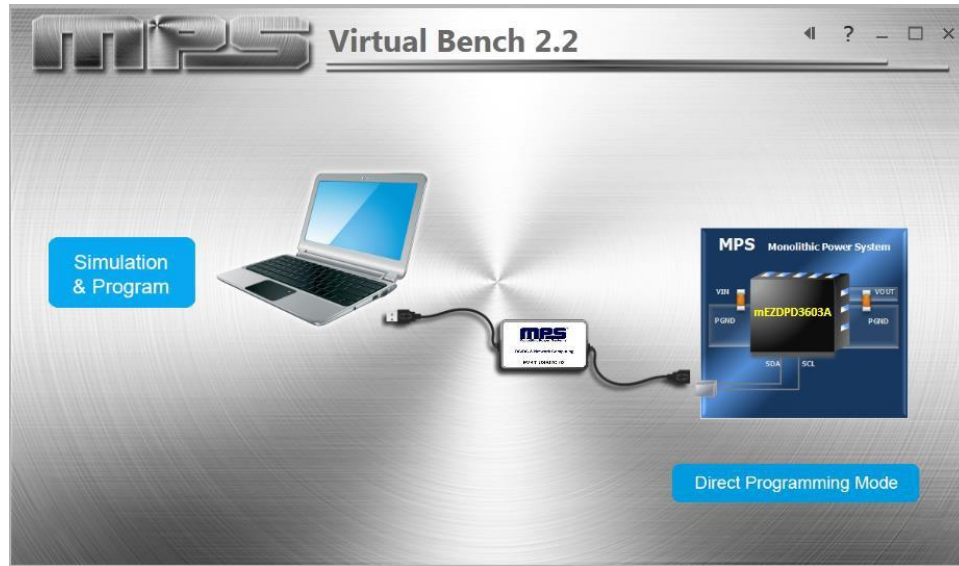

Figure 6: Appearance after Starting the Software
1. Start the software. It will display the version (see Figure 6).